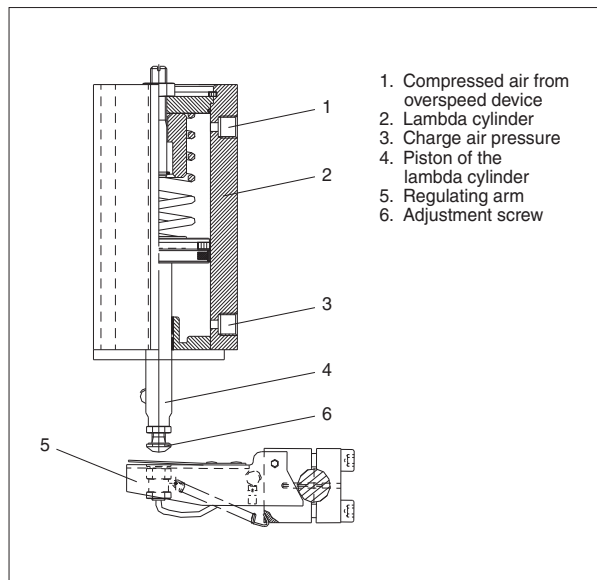

Fig 3.
3. In case of large deviation from index 24 adjustment is done by turning the regulating arm (5), fig 3. Finally adjustment is done at the adjustment screw (6), fig 3.
5. Remove pipe for charge air pressure, see fig 3.